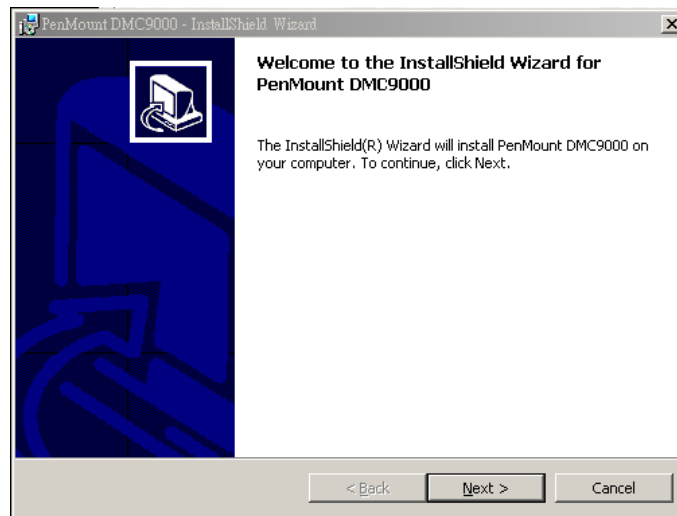

Figure 7-25: Welcome Screen
- Step 3:** A welcome screen appears (**Figure 7-25**). To continue the installation process click **NEXT**.